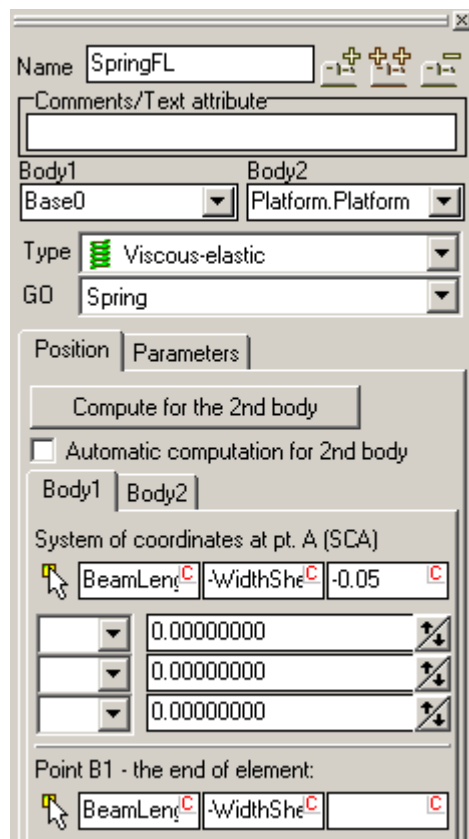

Figure 3.10
3. Rename it as **SpringFL** (forward, left), set element type **Elastic**, interacting bodies **Base0-Platform.Platform** as well as the **Spring** GO (Fig. 3.10).
5. Coordinates of the element end point in undeformed state in system of coordinates of the first body, Fig. 3.10:
**BeamLength/2, WidthShelf/2 + WidthBeamShelfLow/2, 0.0** (Fig. 3.10)